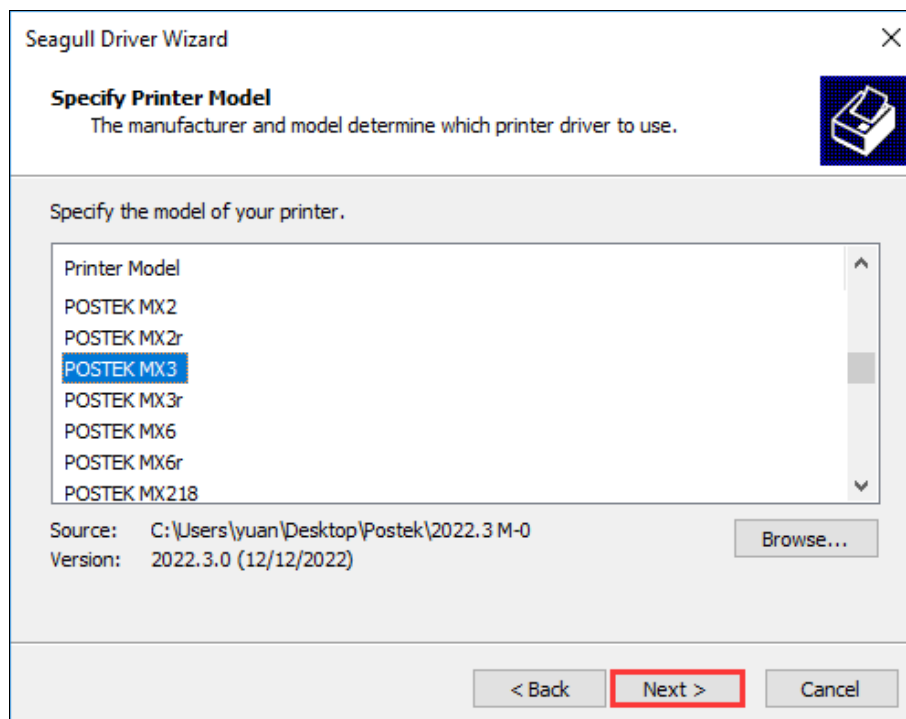

Figure 2-41 Specify Printer Model Screen
4. The “Specify Printer Model” screen displays, select the printer model, and click “Next”, as shown in Figure 2-41.